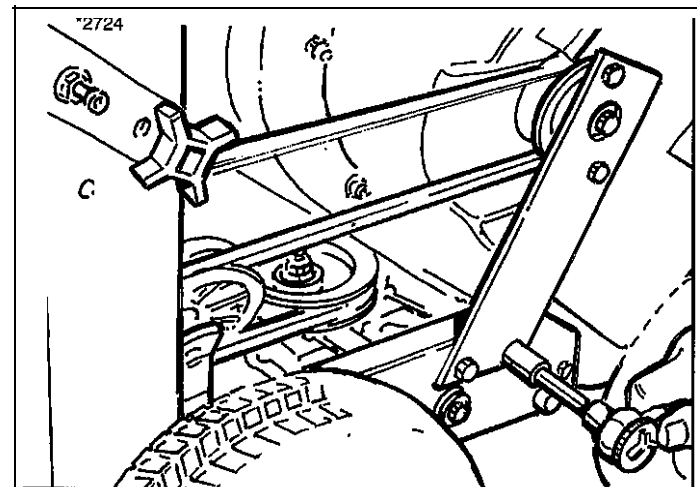

Figure 46. Install Drive Pulley Plate
9. Lift the drive belt over the edge of the drive pulley and engage the pulley, beveled edge in, and slide the drive belt pulley plate and drive shaft into position. Install the two hex head screws and lock washers removed earlier, and tighten securely (Figure 46).